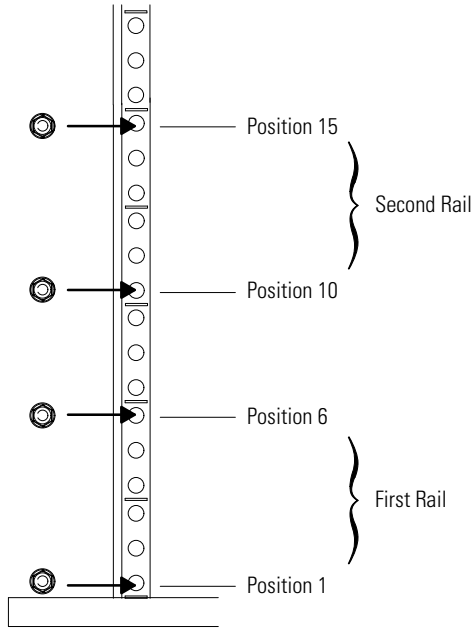

Figure 3. Front Rail Screw Positions
2. Select the proper holes in the rail for positioning the UPS and any optional cabinets in the rack (see Figure 3).